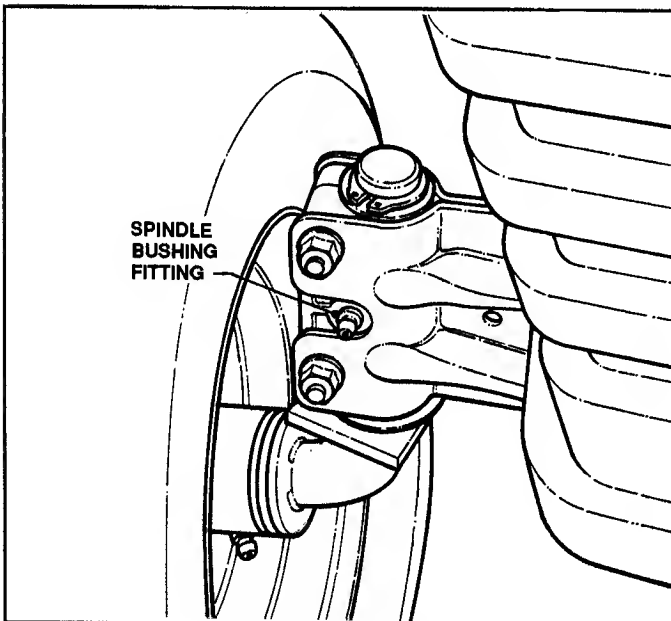
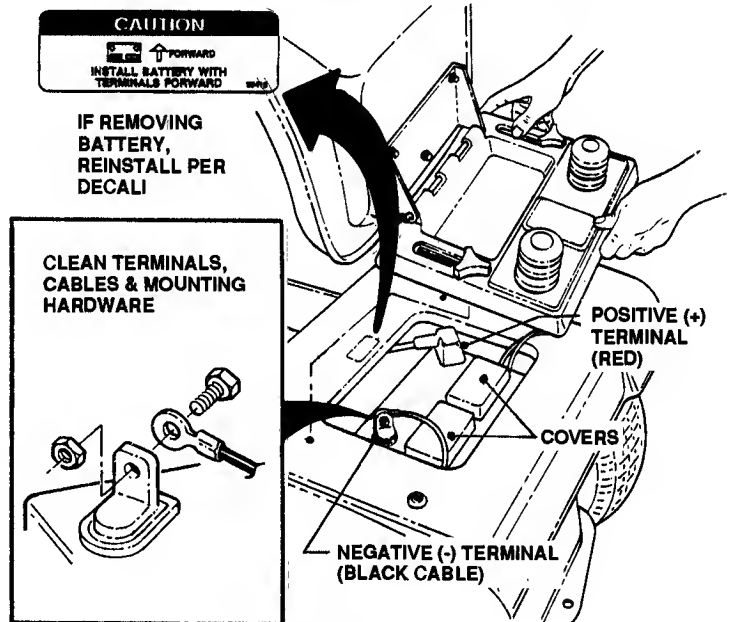

FIGURE 20
FIGURE 24
- **FRONT AXLE:** Lubricate the Spindle Fitting on each side of the front axle. (R.H. Spindle Fitting faces forward, L.H. Fitting faces to the rear). See Figure 20.
Red Boot (shown in Figure 20) remains in position over the Positive (+) Terminal. Always disconnect negative (-) Terminal first and reconnect last. See Figure 24.